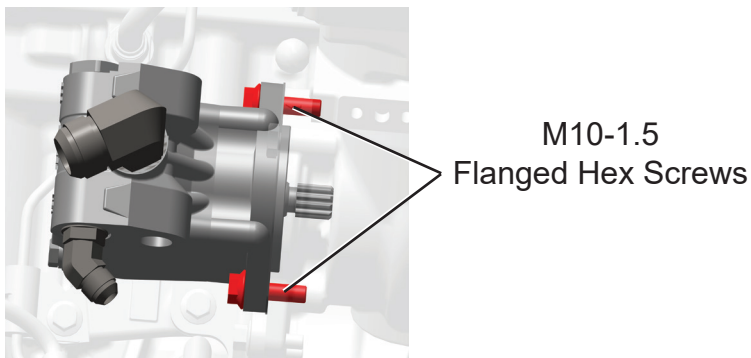

Figure 3
6. Loosen and remove two M10-1.5 flanged hex screws securing power steering pump to engine air compressor, see Figure 3. Save hardware for installation of new pump.
7. Remove power steering pump and gasket from engine air compressor, see Figure 3.